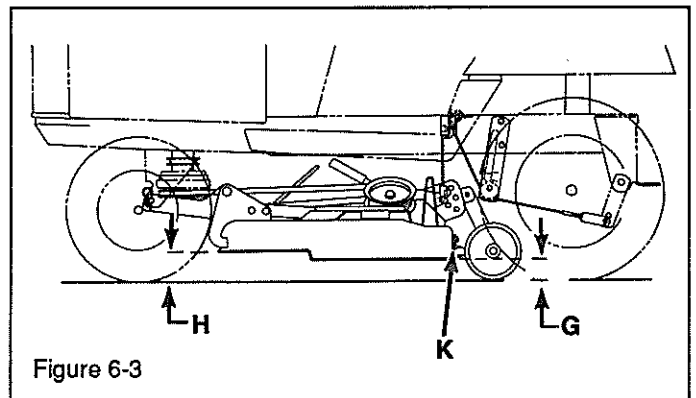
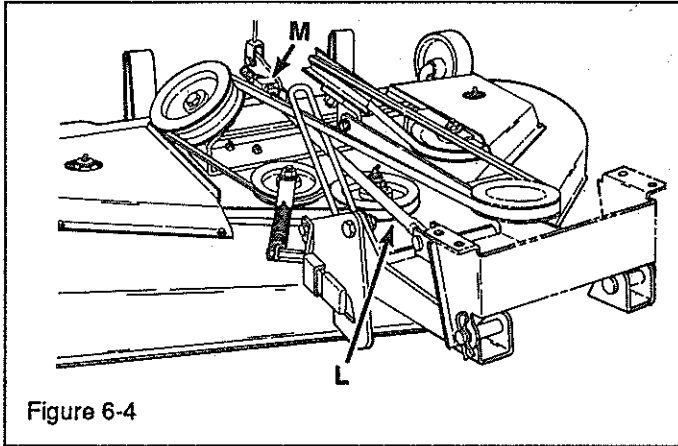

Figure 6-3
Figure 6-4
- Measure height (H, Figure 6-3) and (G) along bottom surface of mower base. Front of deck (H) should be 1" higher (25 mm) than the rear (G). If not, adjust rod length (L, Figure 6-4) at pivot (M).
- a. Measure height (G, Figure 6-3) at both sides of deck.
- b. If mower is not level, loosen gage wheel bracket (K) and adjust bracket height.